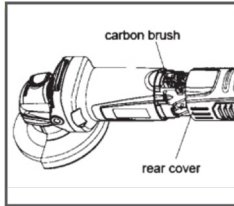

Fig8
2. Both carbon brushes should be replaced at the same time. Use only ZIMBERG brushes provided brush. (Fig. 8)